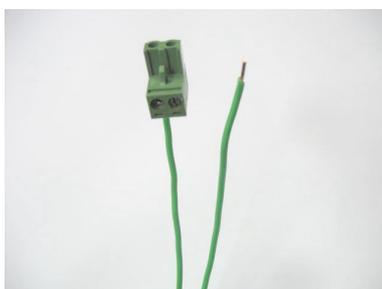

Figure 1.16 -
- There are two loose wire ends where the perimeter wire set up was started (Figure 1.16).